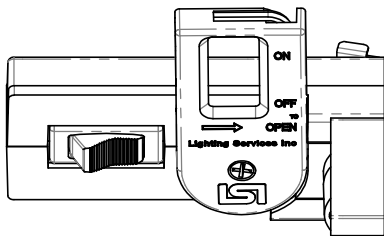
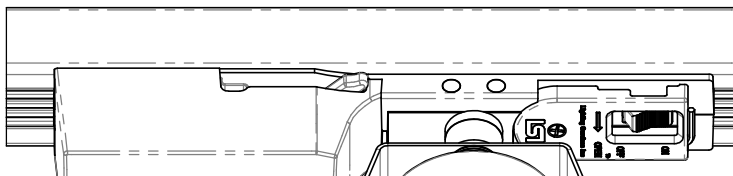

FIGURE 1. FITTING WITH SWITCH OFF AND POWER HANDLE OPEN
FIGURE 3. FITTING INSERTED IN TRACK, DATA HANDLE OPEN
1. FLIP THE FITTING SWITCH OFF, OPEN THE POWER HANDLE (**FIG. 1**) AND OPEN THE DATA HANDLE (**FIG. 3**).
3. INSERT THE FITTING STRAIGHT UP INTO THE TRACK UNTIL FULLY SEATED (**FIG. 3**).